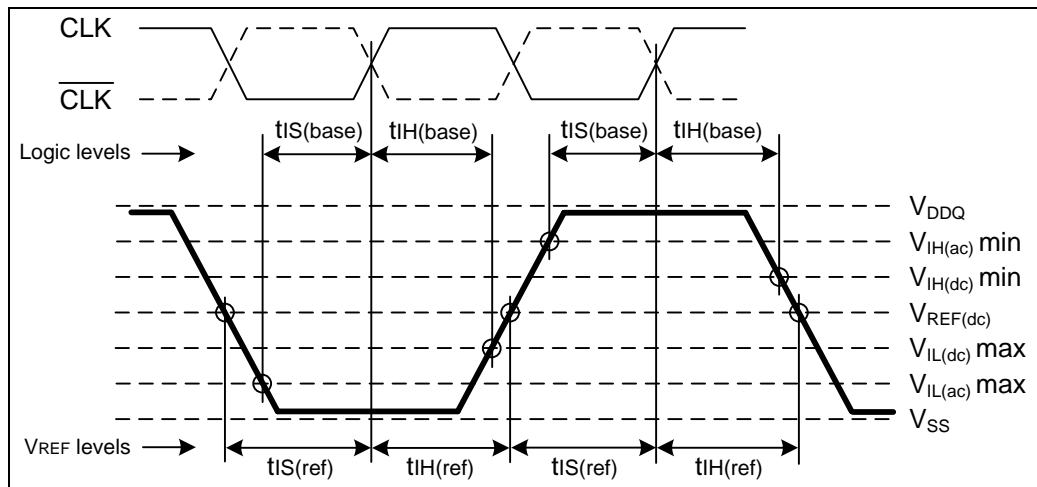

Figure 17 – Differential input waveform timing – tIS and tIH
10. There are two sets of values listed for Command/Address input setup time: $tIS(base)$ and $tIS(ref)$. The $tIS(ref)$ value (for reference only) is equivalent to the baseline value of $tIS(base)$ at $VREF$ when the slew rate is 1.0 V/nS. The baseline value $tIS(base)$ is the JEDEC defined value, referenced from the input signal crossing at the $V_{IH(ac)}$ level for a rising signal and $V_{IL(ac)}$ for a falling signal applied to the device under test. See Figure 17. If the Command/Address slew rate is not equal to 1.0 V/nS, then the baseline values must be derated by adding the values from table of tIS/tIH derating values for DDR2-667 and DDR2-800 (page 53).
11. There are two sets of values listed for Command/Address input hold time: $t_{IH}(\text{base})$ and $t_{IH}(\text{ref})$. The $t_{IH}(\text{ref})$ value (for reference only) is equivalent to the baseline value of $t_{IH}(\text{base})$ at V_{REF} when the slew rate is 1.0 V/nS. The baseline value $t_{IH}(\text{base})$ is the JEDEC defined value, referenced from the input signal crossing at the $V_{IL}(\text{dc})$ level for a rising signal and $V_{IH}(\text{dc})$ for a falling signal applied to the device under test. See Figure 17. If the Command/Address slew rate is not equal to 1.0 V/nS, then the baseline values must be derated by adding the values from table t_{IS}/t_{IH} derating values for DDR2-667 and DDR2-800 (page 53).